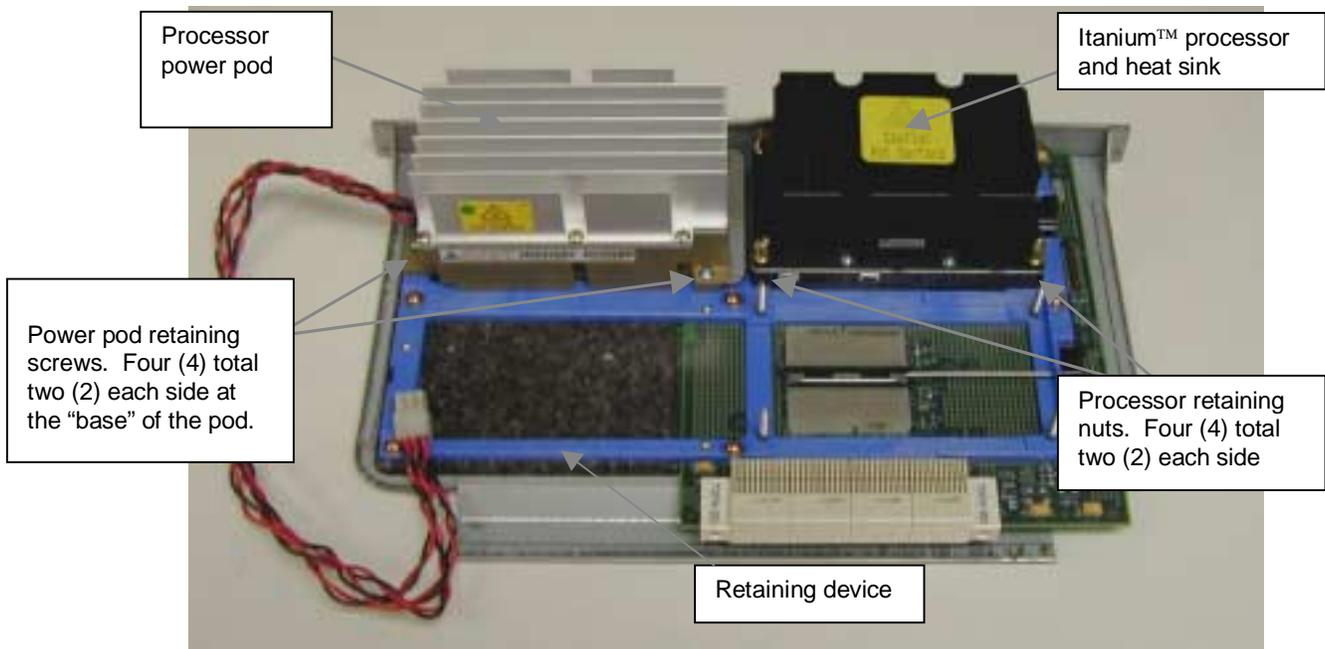

Figure 15 Preparing the system for upgrade
2. Remove the four (4) Phillips-head screws securing the processor Power Pod to the retention device (refer to Figure 15).